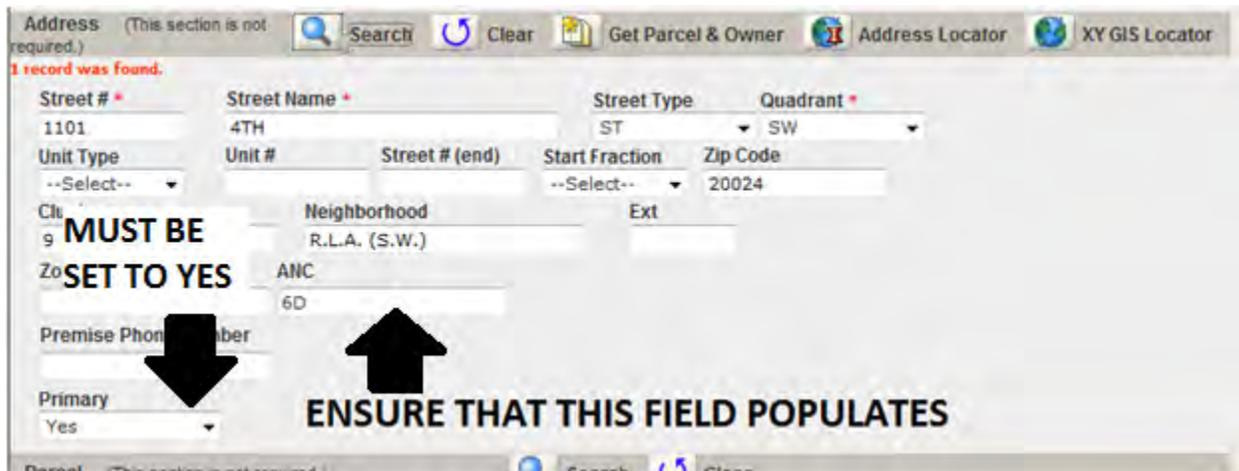

Figure 2.5
8. If the address is valid and recognized by Accela, then Accela will display that the record was found in red at the top of the address field. Ensure that the “ANC” field populates, because if this field is not populated, the applicant will not be able to schedule inspections via the Automated Inspection Request and Permit Information System, also known as IVR. (see Figure 2.5).
9. Ensure that the “Primary” drop down menu is set to “Yes” (see Figure 2.5)